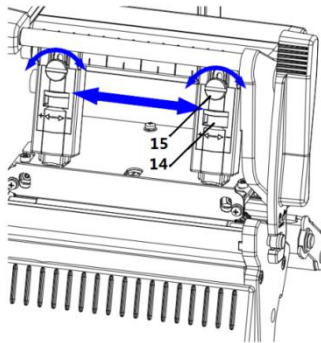

Fig. 3.1.1
The print head pressure adjustment device is equipped with two print head pressure adjustment knobs (8), and each knob can adjust the print head pressure steplessly. Turn the knob leftward, the print head pressure will increase (see Fig.3.1.1). The pressure position lock knob (9) can adjust the pressure position and lock the pressure size.